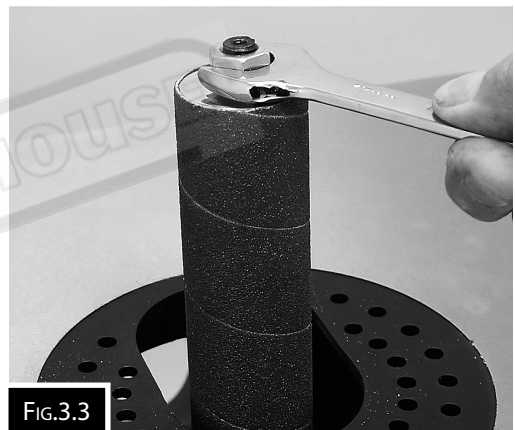

FIG.3.3
1. To remove a sandpaper sleeve from a spindle, take off the top nut with a wrench, remove the washer, and slide the sanding sleeve off of the rubber spindle. (Fig.3.3)
3. Replace the washer and top nut. Tighten the nut to expand the rubber body. This will grip the sanding drum. Fig.3.3)